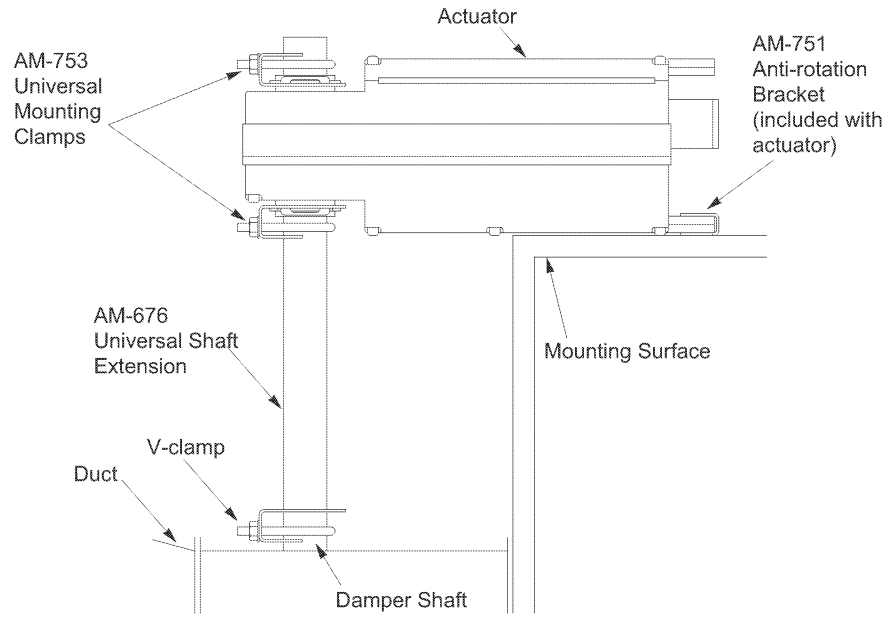

Figure-10 Installation of Universal Shaft Extension.
See Figure-10 for installation of actuator using the AM-676 Universal Shaft Extension. Installation requires AM-676 Universal Shaft Extension and AM-753 Universal Mounting Clamps for 3/4" to 1" (19 to 25 mm) shafts, these items must be ordered separately.
6. Assemble the damper actuator onto the universal shaft extension, allowing the extension to slide through the actuator's universal mounting clamps. Make sure the actuator is 90° (perpendicular) to the damper shaft. Then, hand tighten the nuts on both of the actuator's universal mounting clamps. See Figure-10
8. Position the actuator and bracket in the desired final mounting position on the mounting surface and drill mounting holes. See Figure-10.